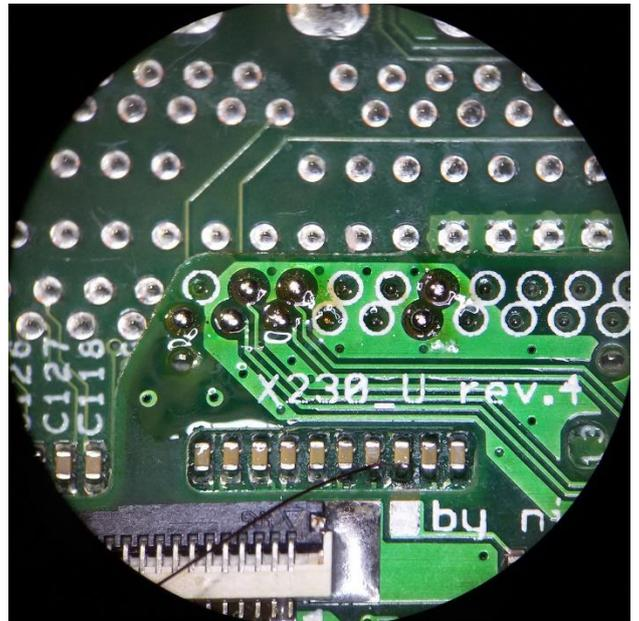

Figure 11. Soldering PTHs
5. Add more flux and reheat each PTH for at least 6 seconds to make sure there is no air trapped inside. The result is shown in figure 11;